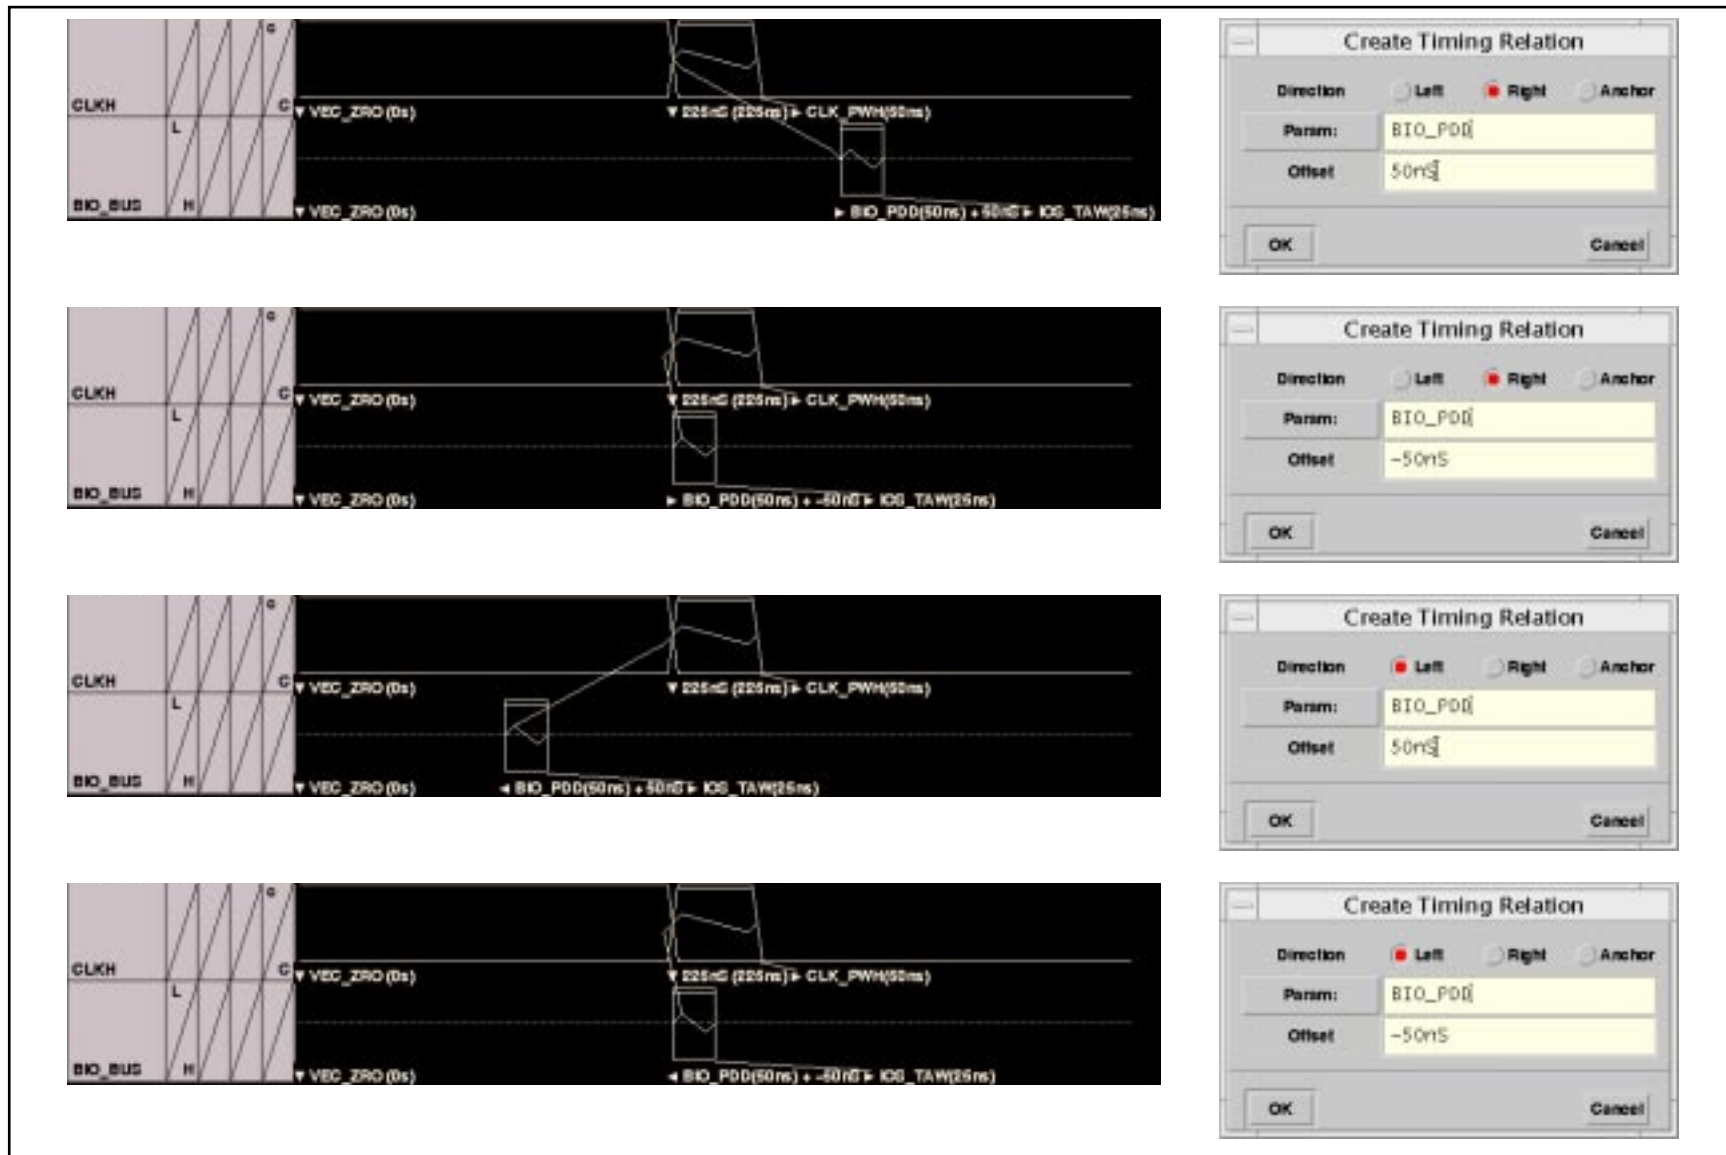

Figure 2.42: Examples of Spec Parameters with Offsets
Also, each transition edge has a defined timing value, programmed as a timing offset, a timing spec parameter, or an expression consisting of a timing spec parameter and a timing offset; see Figure 2.42. These edges are also known as *markers*. Also, refer to Timing Expressions.
- Left and right arrows  —signify relative timing, which requires a reference edge for a timing spec parameter, timing offset or combination of a timing spec parameter with a timing offset; see Figure 2.42.